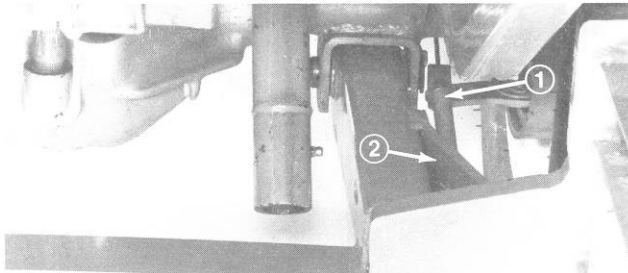

Figure 5
6. Remove cotter pins from clevis pins holding brake struts and yokes together, and discard the cotter pins. Keeping clevis pin in place, install short end of spring into hole in clevis pin to retain parts together. Connect other end of springs to slotted holes in frame. (Fig. 5).